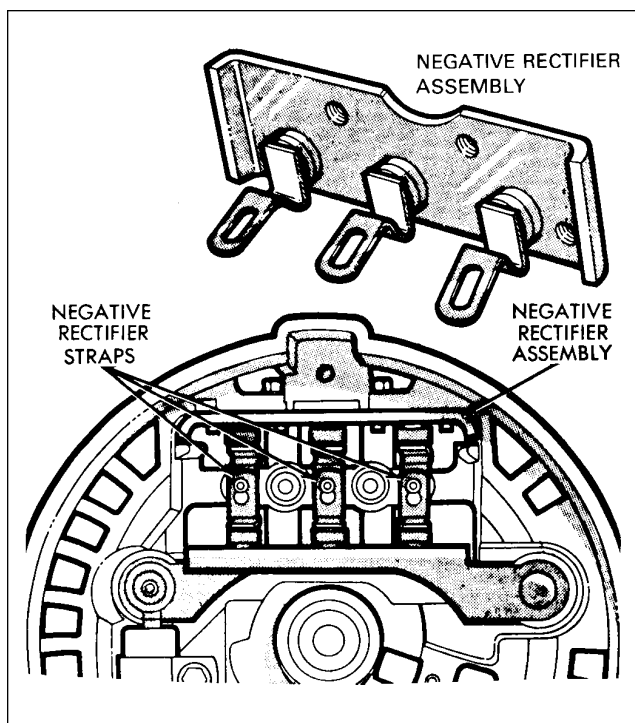

Figure 24-26. Installation of Negative
15. Position the stator over the rectifier end shield assembly and place the winding terminals on the terminal block studs. Press the stator into the end shield, install terminal nuts and torque 11 to 17 inch-pounds. (Refer to Figure 24-26.)